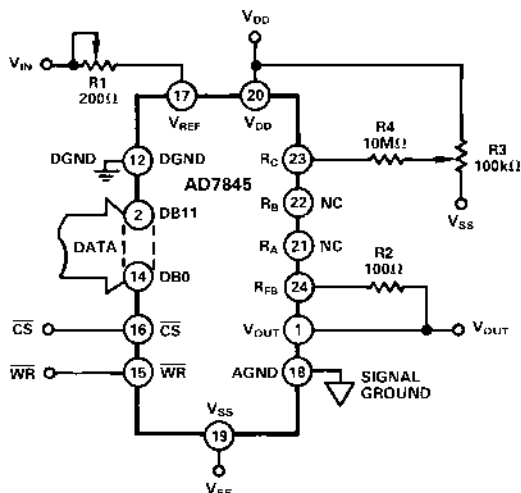

Figure 13. Unipolar Binary Operation
Gain error is a measure of the output error between an ideal DAC and the actual device output with all 1s loaded after offset error has been adjusted out. Gain error is adjustable to zero with an external potentiometer. See Figure 13.
Figure 13 shows the AD7845 connected for unipolar binary operation. When  $V_{IN}$  is an ac signal, the circuit performs 2-quadrant multiplication. The code table for Figure 13 is given in Table I.
**OFFSET AND GAIN ADJUSTMENT FOR FIGURE 13**
**Temperature Coefficients:** The gain temperature coefficient of the AD7845 has a maximum value of 5 ppm/°C. This corresponds to worst case gain shift of 2 LSBs over a 100°C temperature range. When trim resistors R1 and R2 in Figure 13 are used to adjust full-scale range, the temperature coefficient of R1 and R2 must be taken into account. The offset temperature coefficient is 5 ppm of FSR/°C maximum. This corresponds to a worst case offset shift of 2 LSBs over a 100°C temperature range.